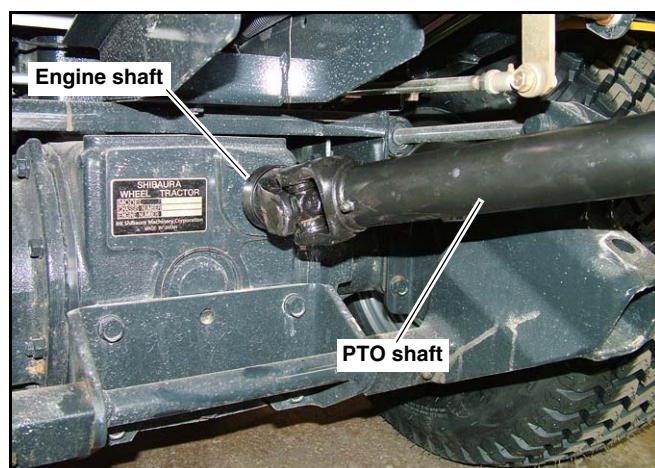

Fig. 3-5
7. Attach the PTO shaft to the engine shaft. Fig. 3-5